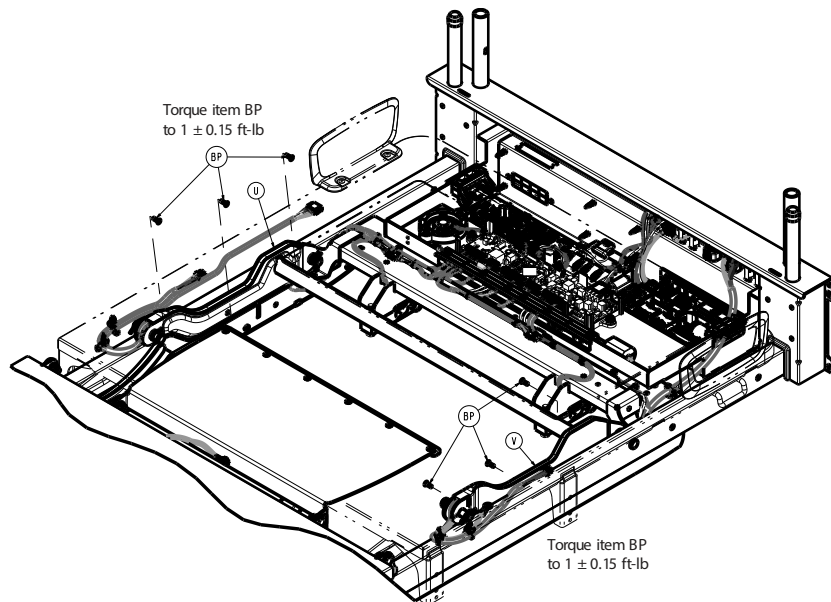

Figure 25 – Removing the cover
20. Using a T15 Torx driver, remove the three screws (BP) that secure the Fowler link cover (V) to the Fowler link (Figure 25). Save the screws.
22. Using a T15 Torx driver, remove the three screws (BP) that secure the Fowler link cover (U) to the Fowler link (Figure 25). Save the screws.